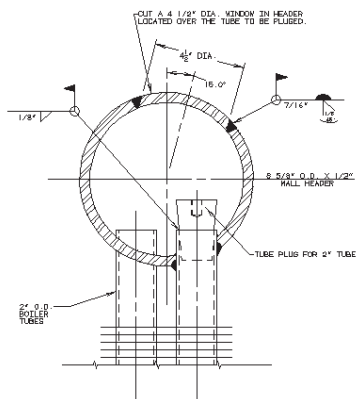

Figure 4.3 Typical Tube Plugging Process
4.4.4 Weld a steel plug in both ends of leaking tube (See Figure 4.3).